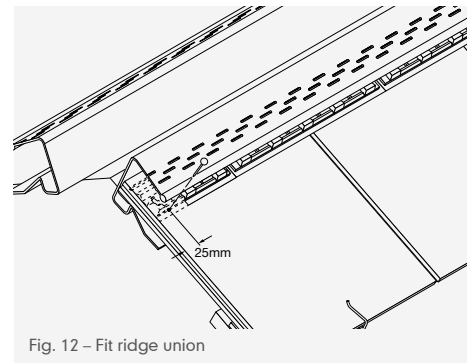

Fig. 12 – Fit ridge union
- 9 For mortar bedded verges, hips and valleys drill a 4mm diameter hole through top two courses as shown (Fig. 12) 25mm from verge and insert a copper slate nail.